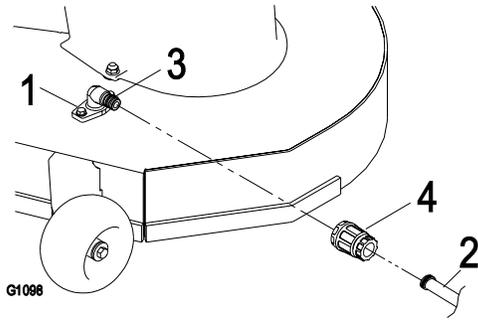

Figure 49
- Attach the hose coupling to the end of the mower washout fitting, and turn the water on high (Figure 49).